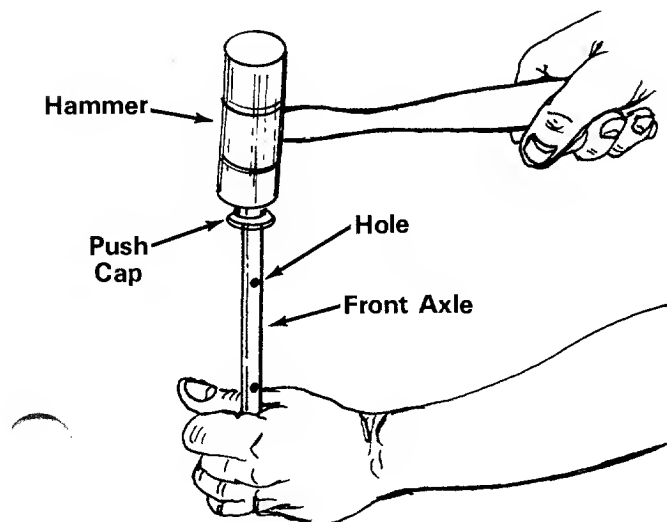

FIGURE 3
1. Using a hammer, tap one push cap onto the end of the front axle which has a hole closer to it. See figure 3.